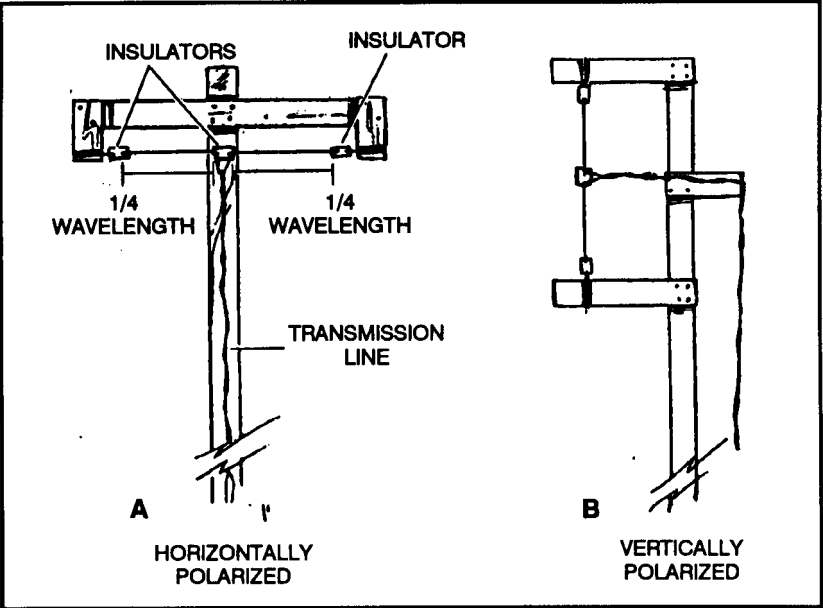

Figure 7-7. Center-fed half-wave antenna, supported.
(1) Compute the length of a half-wave antenna by using the formula in paragraph 7-5. Cut the wires as close as possible to the correct length; this is very important.
(2) Uses transmission line for conducting electrical energy from one point to another and for transferring the output of a transmitter to an antenna. Although it is possible to connect an antenna directly to a transmitter, the antenna is usually located some distance away.
(3) Support center-fed half-wave FM antennas entirely with pieces of wood. (A horizontal antenna of this type is shown in A, Figure 7-7, page 7-8, and a vertical antenna in B, Figure 7-7.) Rotate these antennas to any position to obtain the best performance.